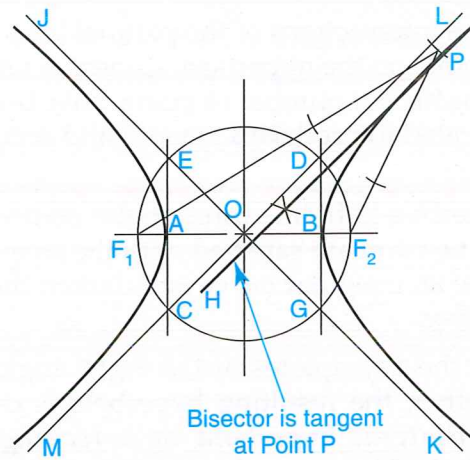

Figure 7-21. Drawing a tangent to a point on a hyperbola when the foci are given.
1. Hyperbola LBK, the point of tangency (Point P), and the foci are given, **Figure 7-21**.
1. Hyperbola LBK, the point of tangency (Point P), and the foci are given. Refer to **Figure 7-21**.
3. Bisect Angle F_1PF_2 . Enter the **Circle** command and specify the center as Point P. Drag the cursor to specify the radius at a convenient distance. Refer to the arc segments intersecting Lines PF_1 and PF_2 in **Figure 7-21**. Enter the **Circle** command again and draw another circle. Locate the center where the previously drawn
circle intersects Line PF_1 . Specify the radius as slightly greater than one-half the radius of the previously drawn circle. Enter the **Copy** command and copy this circle. Locate the center where the first circle drawn intersects Line PF_2 . The intersection of the two circles is the point of intersection for the tangent line. Refer to the intersecting arcs in **Figure 7-21**.